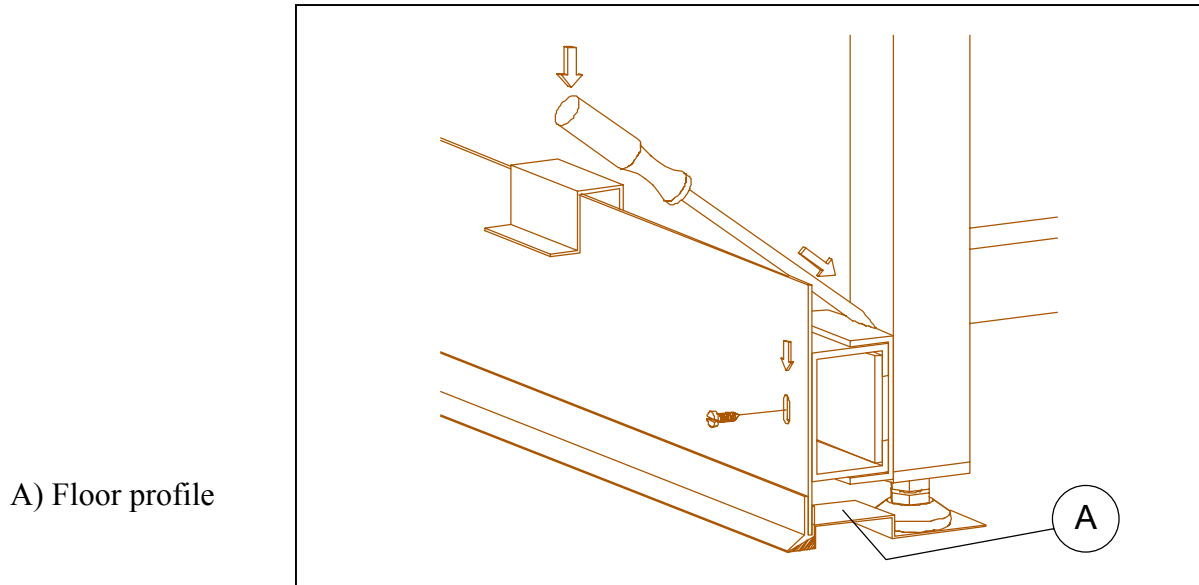

Figure 26
Once the merchandiser has been connected and levelled, the stop profiles (A) are placed underneath the adjusting legs (see figure 26) by lifting the merchandiser slightly (for example by means of a wooden beam).